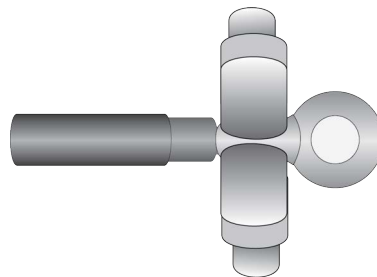

Figure 39. Crimping the Ring Terminal Lug
4. Crimp the ring terminal lug with a wire crimping tool to secure it on the grounding wire. Refer to Figure 39.